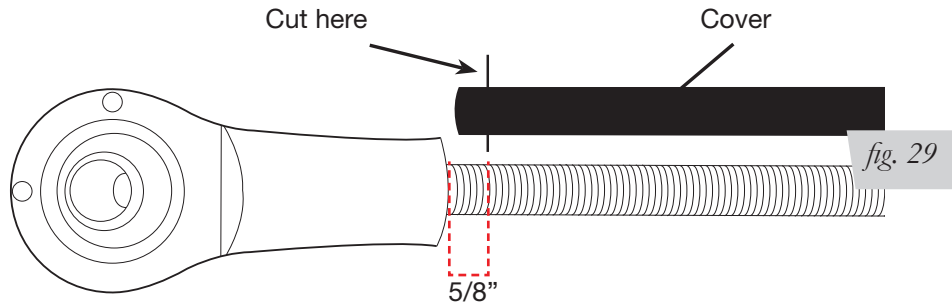

fig. 29
- Cut the rod cover 5/8" shorter than the rod length with the rod assembled on one end after cutting (fig. 29).